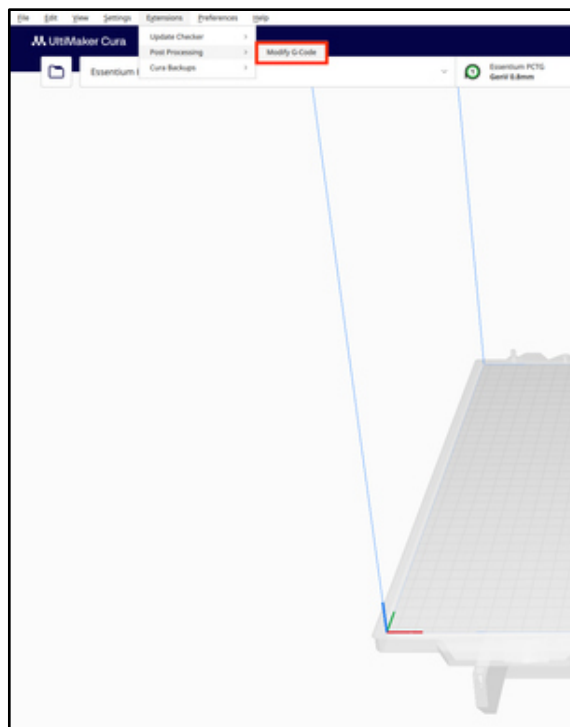

Figure 24: Navigating to Post-Processing Scripts
14. Navigate to Extensions > Post Processing > Modify G-Code (See Figure 24).